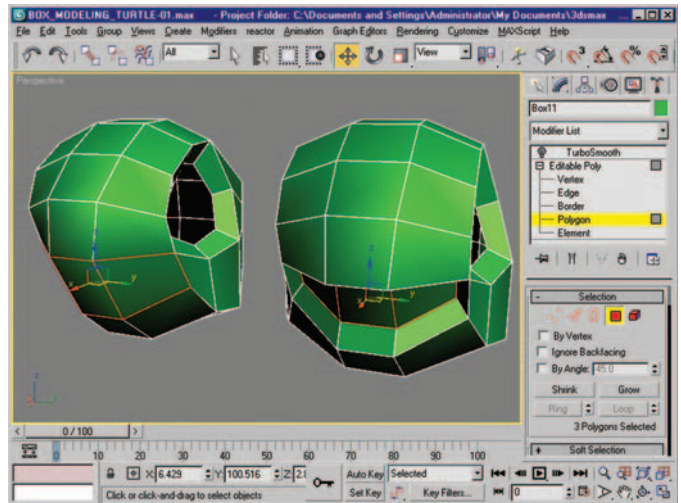

Figure 2.47 Polygon selection and beveled result.
11. Select the three polygons shown in Figure 2.47 and use Bevel with a negative value to create an opening for the mouth.